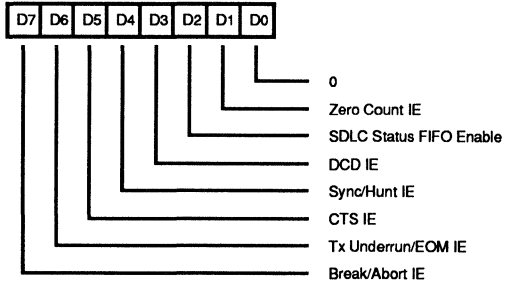

Figure 51. Read Register Bit Functions
Read Registers. The ESCC contains ten read registers (eleven, counting the receive buffer (RR8) in each channel). Four of these may be read to obtain status information (RR0, RR1, RR10, and RR15). Two registers (RR12 and RR13) are read to learn the baud rate generator time constant. RR2 contains either the unmodified interrupt vector (channel A) or the vector modified by status information (channel B). RR3 contains the Interrupt Pending (IP) bits (channel A only). RR6 and RR7 contain the information in the SDLC Frame Status FIFO, but is only read when WR15, D2 is set. If WR7' D6 is set, Write Registers WR3, WR4, WR5, WR7, and WR10 can be read as RR9, RR4, RR5, and RR14, respectively. Figure 51 shows the format of each Read register.